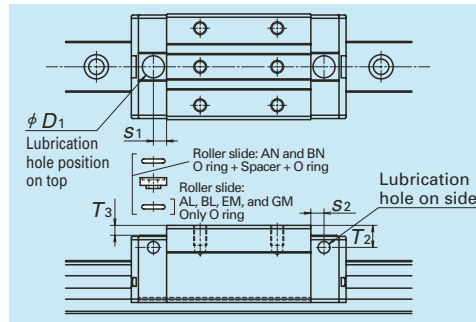

Fig.13 S and side lubrication hole positions
- A lubrication hole can also be provided on the top of the end cap. Fig.13, Table 9 and Table 10 show the mounting position. A spacer is required for AN and BN shape roller slides. The spacers are available from NSK.